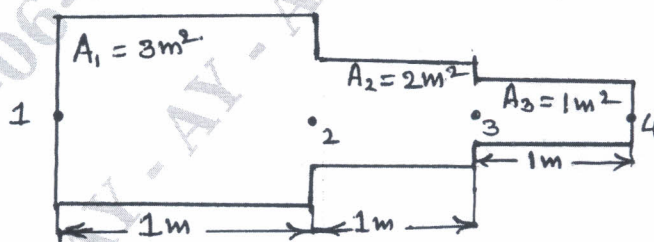

Fig.Q.8
- 8 For smooth pipe of variable cross section shown in Fig.Q.8. Determine the potential at the junctions, velocities in each section of pipe and volumetric flow rate. Potential at left end $P_1 = 10 \text{ m}^2/\text{s}$, right end $P_4 = 1 \text{ m}^2/\text{s}$. Fluid flow through the pipe $K_x = 1$. (20 Marks)